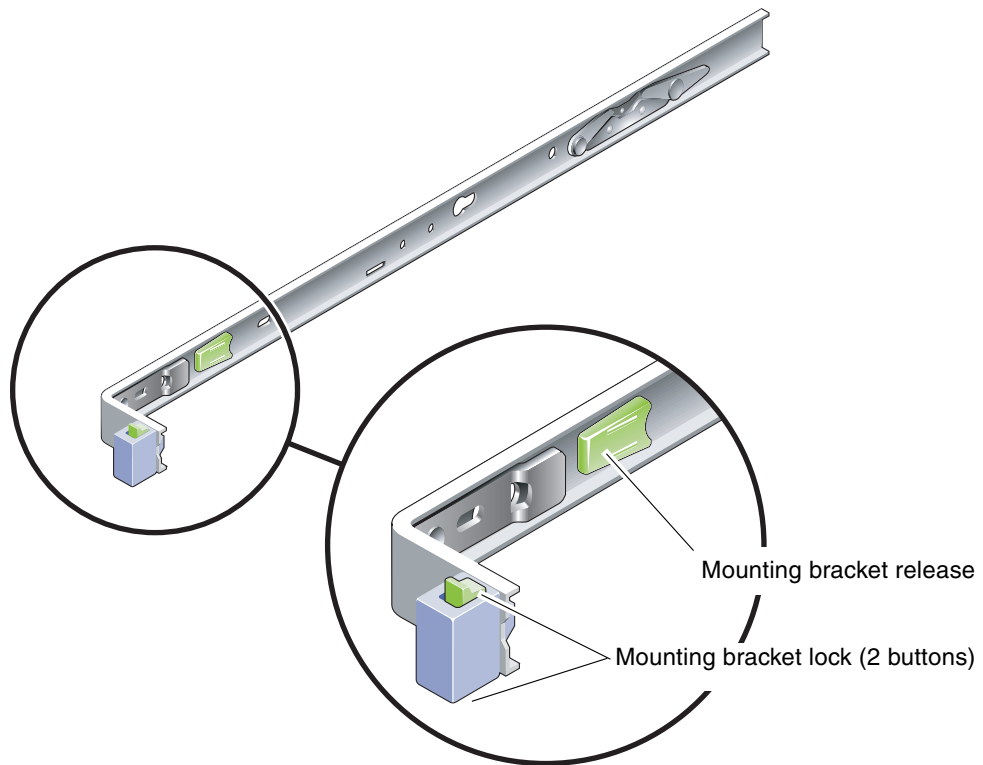

FIGURE 1-3 Mounting Bracket Locks
- There are two locks on each server mounting bracket (FIGURE 1-3). The lock enables the mounting bracket to slide forward. The mounting bracket release allows you to remove the mounting bracket from the slide rail. You also use the release when pushing the mounting bracket into the slide rail.